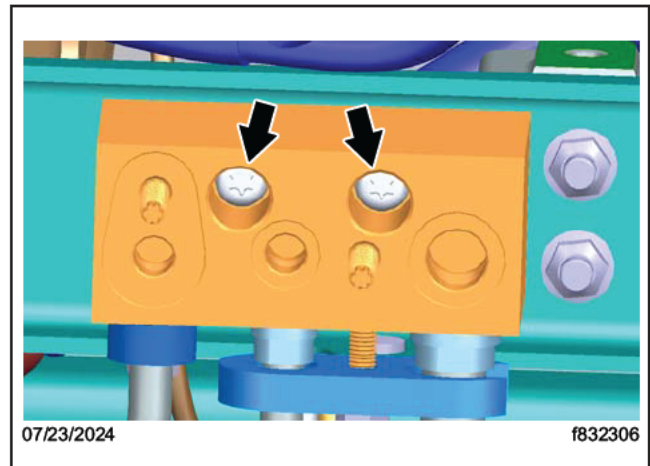

Fig. 6, J-Block Mounting Fasteners
28. Remove the J-block fasteners and remove the J-block from the vehicle. See Fig. 6.